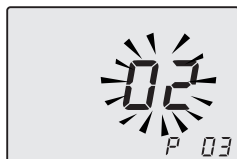

Fig. 7.27
- Use key 11 or 12 to modify the value of parameter 03 to **00**=maximum speed or **01**=average speed.
- The writing **P03** - **SEt** alternates on the display (Fig. 7.27).